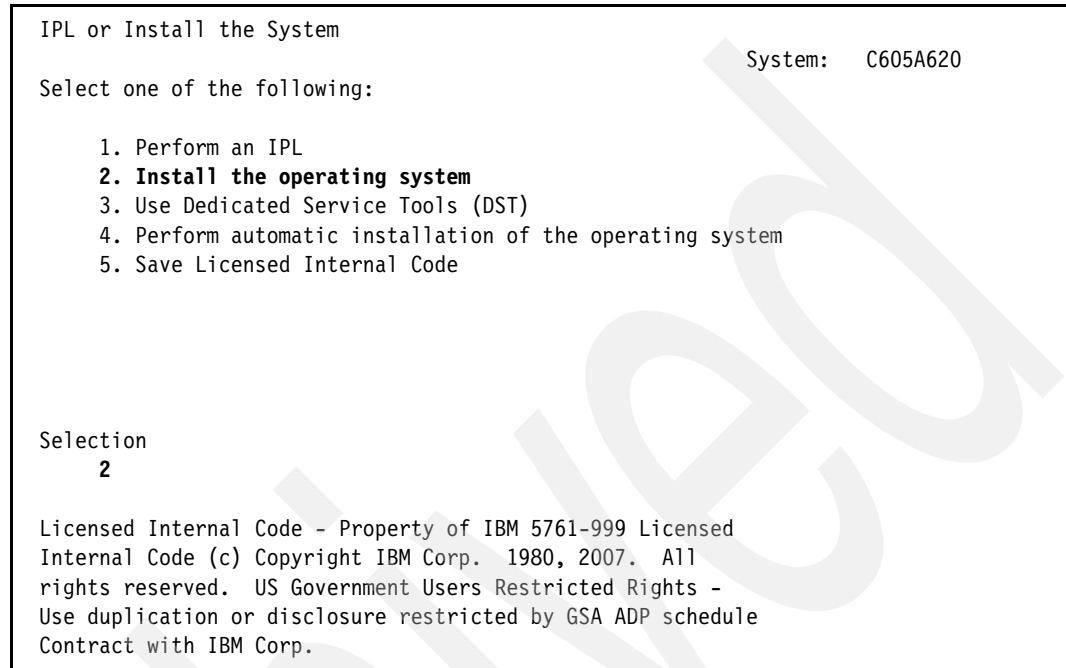

Figure 6-75 IBM i IPL or Install the System panel
14. After the SLIC install has completed, the IPL or Install the System panel appears. We insert the IBM i 6.1 B2924\_01 DVD into the VIOS partition's DVD-RAM drive and select option **2. Install the operating system** to proceed with our IBM i 6.1 client installation, as shown in Figure 6-75.